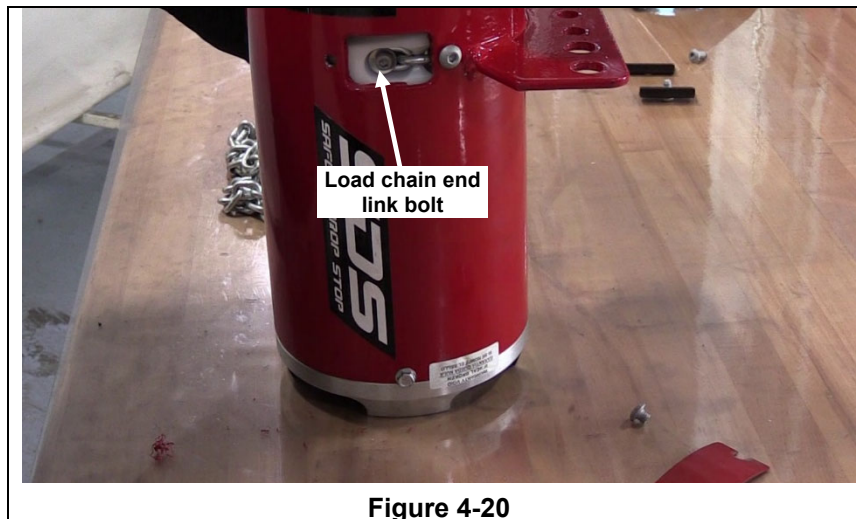

Figure 4-20
Step 12. Remove the load chain end link bolt and washer from the spool and chain. (See Figure 4-20)